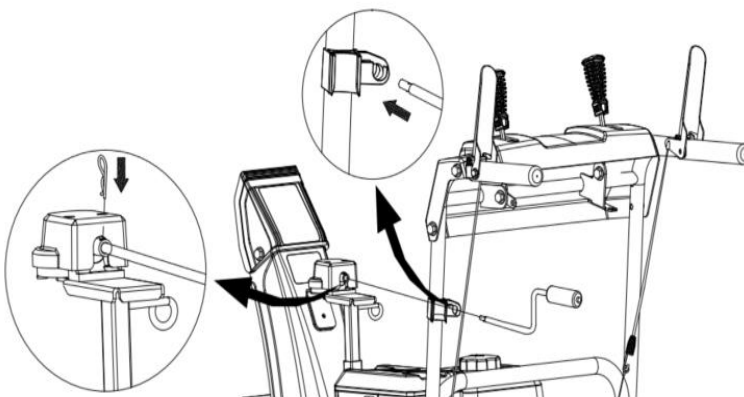

Figure 4
1. Slide Chute Handle through Chute Handle Guide near the Upper Panel, as indicated on Figure 4.
2. Attach Chute Handle to base of Chute Gear Connection and secure with Cotter Pin, as indicated on Figure 4.